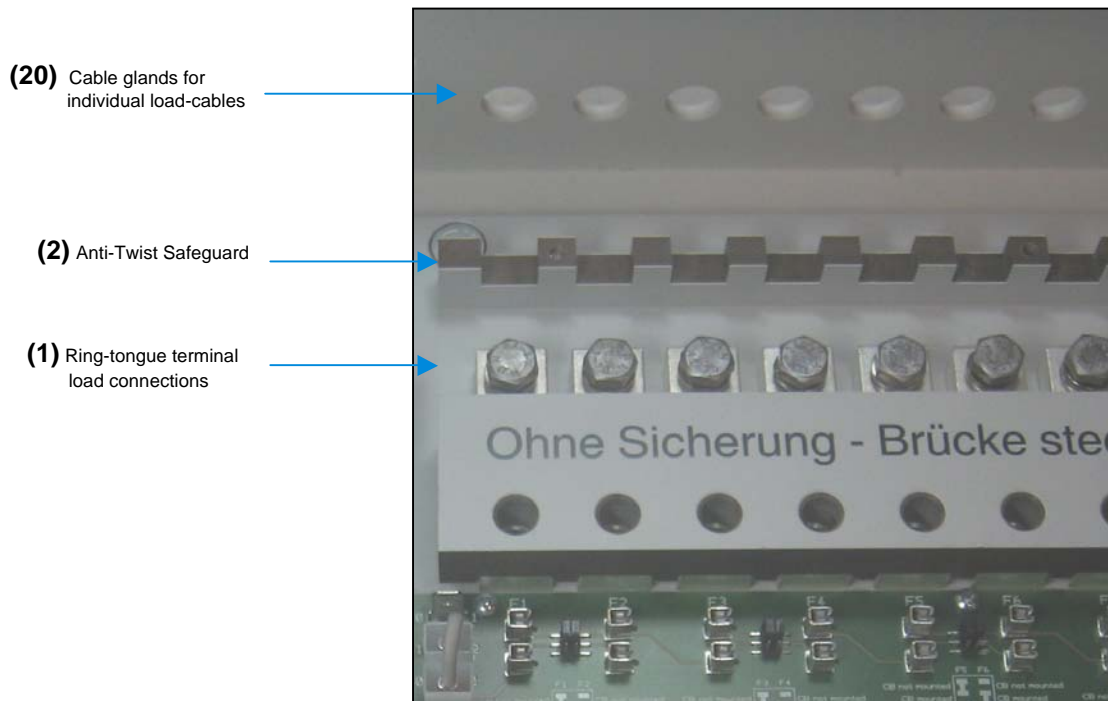

Fig. 10 - Load Connections
- Load-cables are fed from the top through the load cable glands D = 12 mm (**Fig. 10/20**), then crimped to cable lugs and attached to individual channels by M6 mounting bolts (**Fig. 10/1**).
- Max. torque 7 Nm. In order to ensure correct cable lug placement, the lugs are protected within the anti-twist safeguard (**Fig. 10/2**).